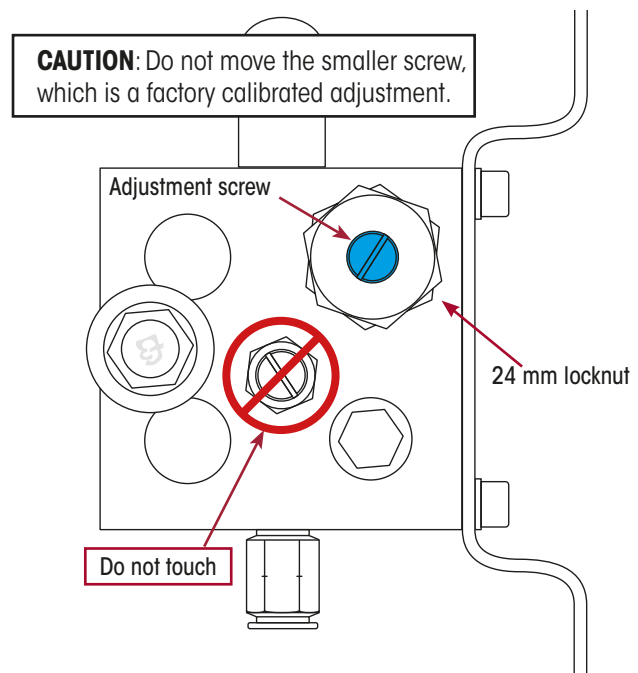

Figure 20: Pressure Drop Adjustment
5. The adjustment for automatic drop pressure is located on the right-hand side of the LACV, usually underneath a black cap. The adjustment range begins at 2.5 bar (36 psi) all the way to 5.8 bar (84 psi). The adjustment screw has a 24 mm locknut, which needs to be loosened before attempting adjustment. Refer Figure 20.